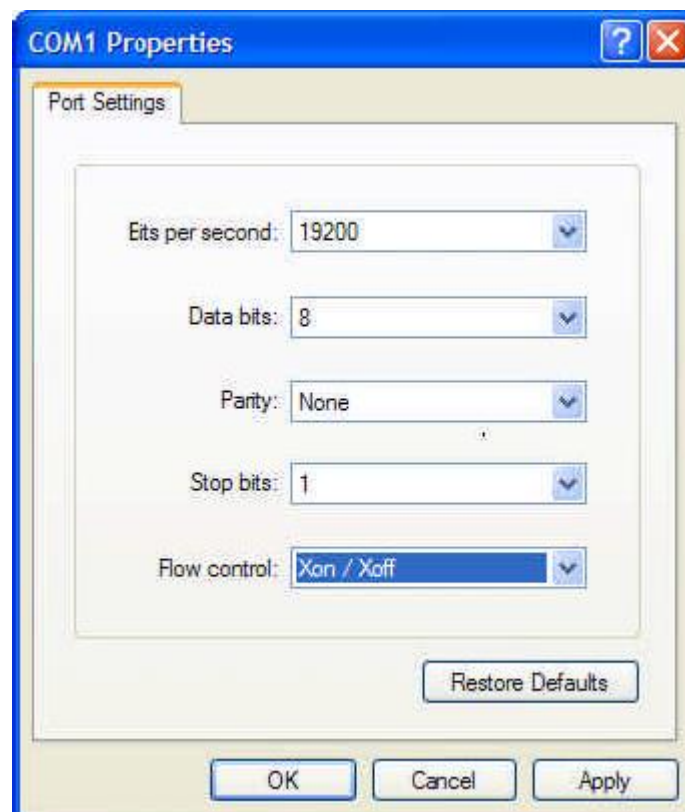

Fig. 1.14 Configuring the hyper terminal
- e) Select the parameters for COM port as shown below (Fig. 1.14) and press OK.